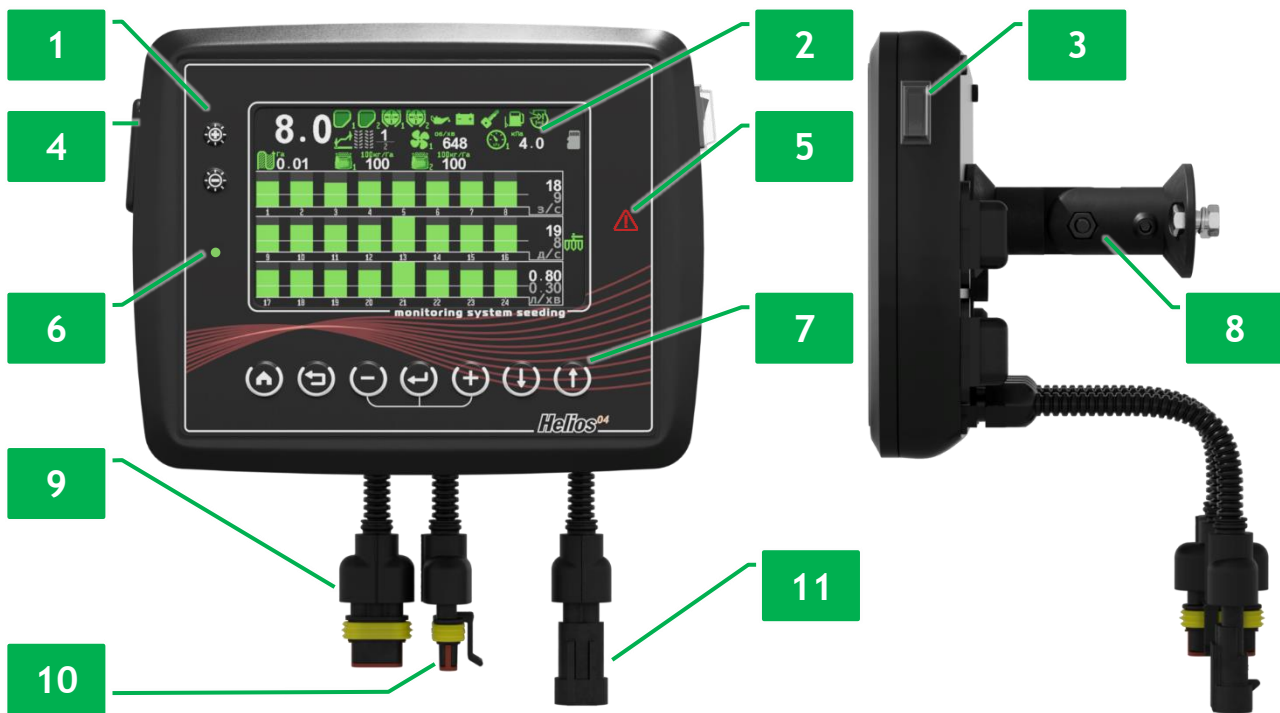

Figure 4 Operator panel
The appearance and controls of the operator panel are shown in the “Figure 4”. The operator panel consists of the following elements:
- power switch (see Figure 4 p.3);
- power indicator (see Figure 4 p.6);
- operator panel mounting bracket (see Figure 4 p.8);
- operator panel control buttons (see Figure 4 p.1 and p.7). Their graphic icons, name and brief description are contained in “Table 1”;
- operator panel screen (see Figure 4 p.2);
- microSD memory card slot (see Figure 4 p.4);
- cable input of the speed sensor harness (see Figure 4 p.9);
- RS-485 communication harness cable input (see Figure 4 p.10);
- cable input of the power harness (see Figure 4 p.11);
- alarm indicator (see Figure 4 p.5).
¹³ The alarm light indicator is shown on "Figure 4" p.5